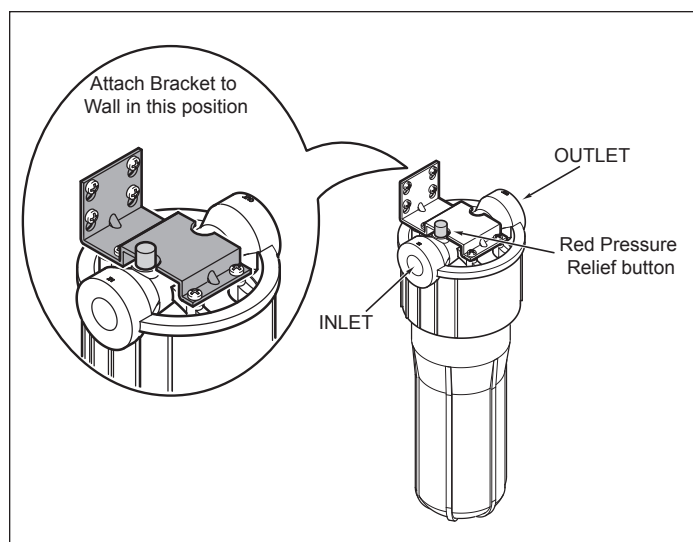

Figure 2. Mounting Bracket (Up Position ONLY)
- The mounting bracket supplied with the system must be mounted in the UP position (See Figure 2). The bracket comes with short screws for attaching to the head and long screws for attaching the bracket to the wall.
- The Head can be mounted with the inlet on the left or on the right. When the inlet is on the left, the red pressure relief button is on the left. Refer to Figure 2 for help in locating the Inlet and Outlet ports.
- The inlet water should only be connected to the "INLET" port on the Head. The filtered water should only be connected to the "OUTLET" port on the Head. See Figure 2.